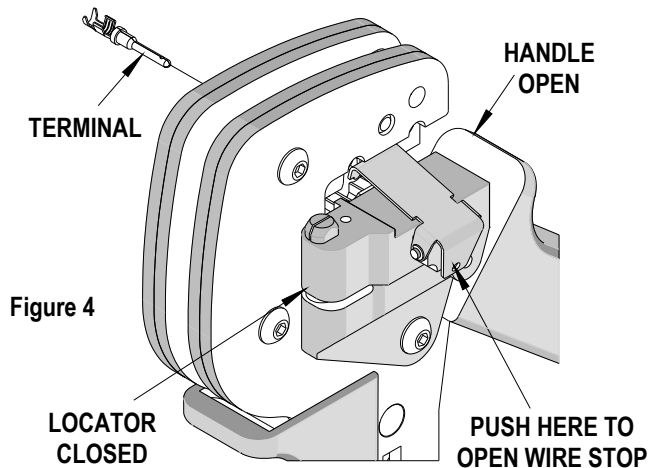
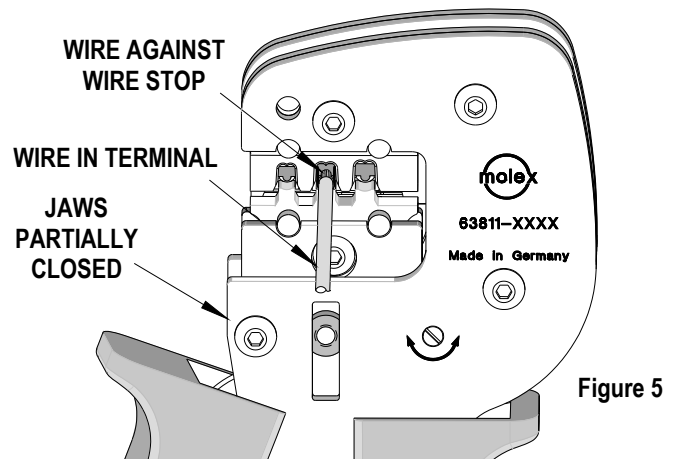

Figure 4
Figure 5
2. Swing the terminal locator away from the crimp tool shown in Figure 3. Some terminals with large insulation grips may interfere with the crimp tooling when swinging the locator into position. The terminal must then be loaded into the locator in the closed crimp position. See Figure 4.
3. Press down on the wire stop on the locator as shown in Figure 4. Insert the proper terminal into the proper nest opening. Make sure when choosing the nest opening, it will correspond with the 14, 16, or 18 profile on the hand tool. See Figure 5.
5. Insert the proper wire over the terminal. Gently touch the wire stop with the end of the wire. See Figure 5 and 6.